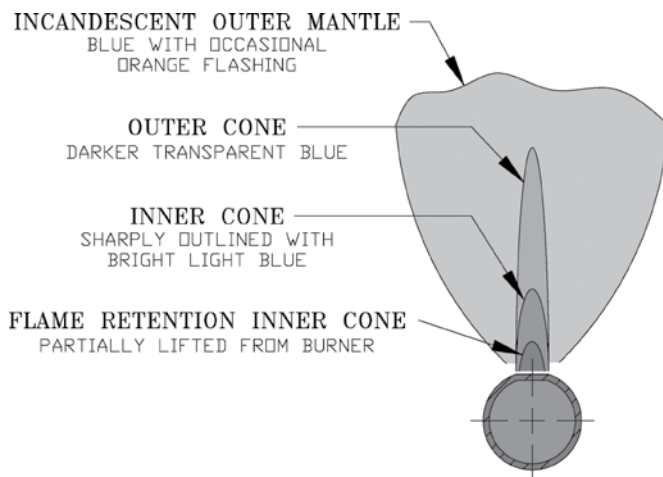

Figure 15: Main Burner Flame
D. Check Main Burner Flame. See Figure 15. Flame should have a clearly defined inner cone with no yellow tipping. Orange-yellow streaks caused by dust should not be confused with true yellow tipping.